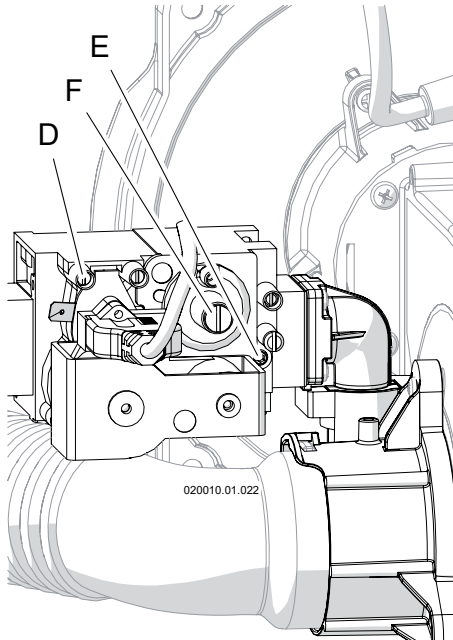

Figure 13-6 Gas valve
- 6.- After verifying the correct gas pressures disconnect the manometer, turn the screw in pressure connection "D" in Figure 13-6, clockwise until snug and check for any gas leaks.
- 14 - Turn completely counter clockwise the screw "E" of Figure 13-6;